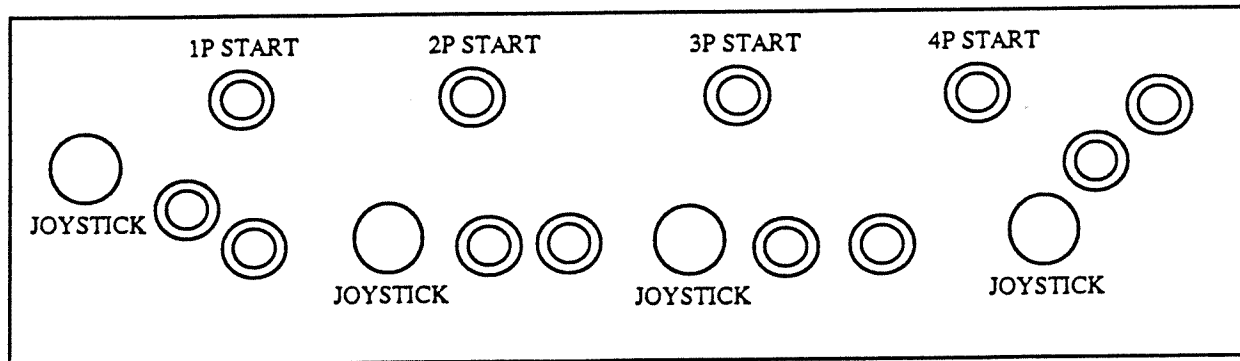

Figure 2
12. Install player/s JOYSTICK/S as required. (see figure 2)